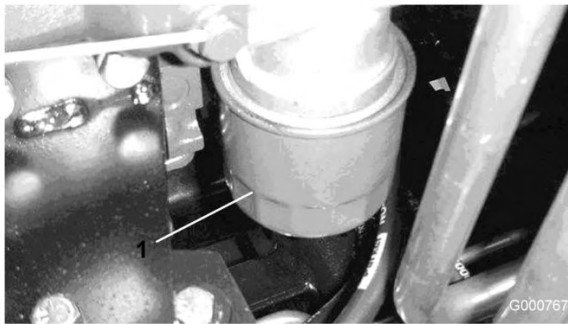

Figure 57
2. Remove oil filter (Figure 57). Apply a light coat of clean oil to the new filter seal before screwing it on. Do not over-tighten.